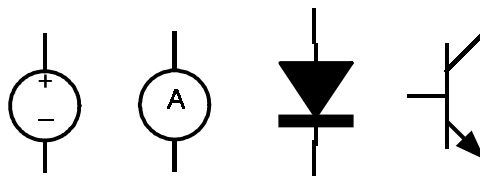

Figure 1: Circuit Elements: Voltage Source, Current Meter (Ammeter), Diode, and npn Bipolar Transistor.
- Using the symbols in Figure 1, draw the test setups you would use to measure: